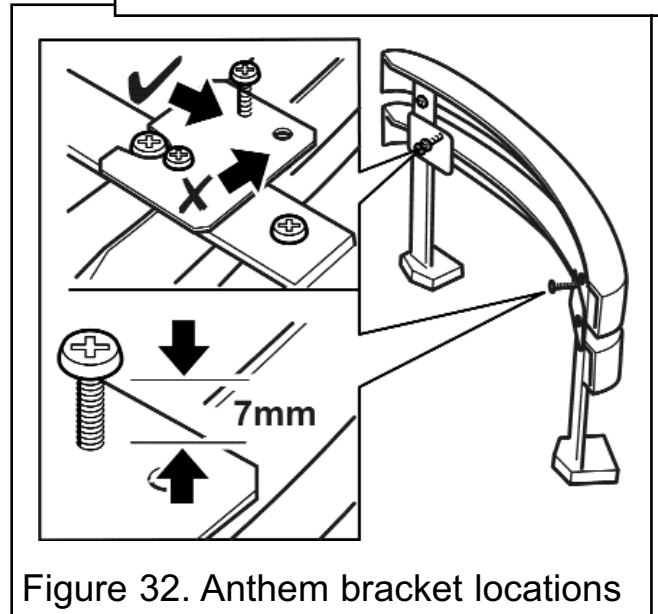

Figure 32. Anthem bracket locations
2. The screw should be set at a distance of 7mm (Measured from the surface of the bracket to the underside of the screw head). Adjust the screw to this distance (See figure 32).